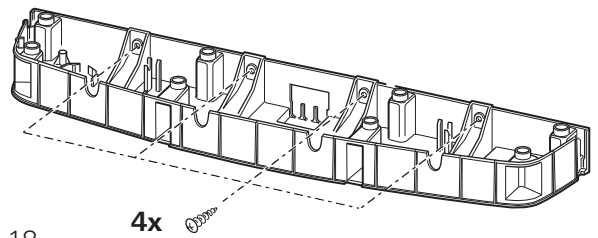

Fig. 18
- ▶ **S 5004:** Secure the support to the mounting frame with 4 screws (3.5 x 16 mm) (Fig. 18).